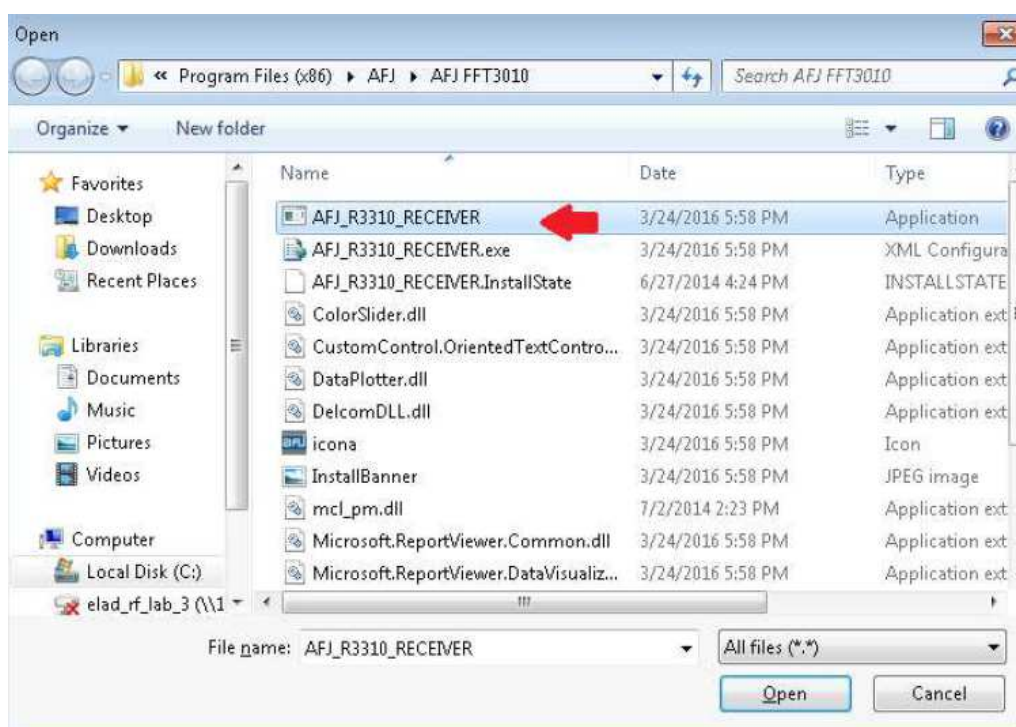

Fig. C.38: Browse window
STEP 7 – Please browse in *C:\Program Files (x86)\AFJ\AFJ FFT3110 (AFJ FFT3100)* folder, select *AFJ_R3310_RECEIVER.exe* application and then click Open (Fig. C.38).